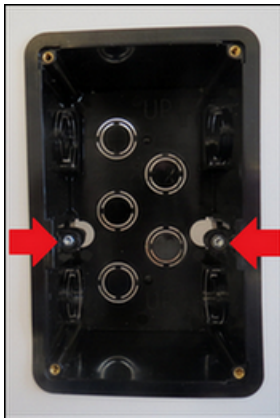

Figure 6
- *Option 1:* fasten with screws directly through the box into the wall material; see Figure 6.